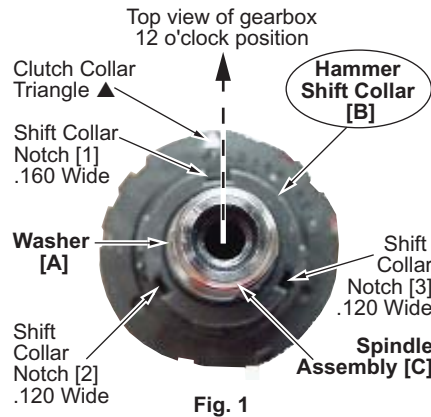
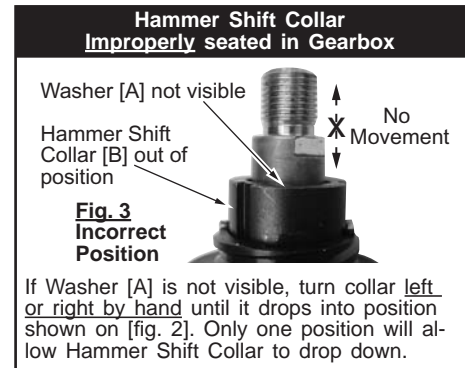

Fig. 1
Fig. 3 Incorrect Position
- Hammer Shift Collar [B] notch [1] with the .160 wide notch in-line or slightly left of gearbox 12 o'clock position (fig. 1).
If hammer Shift Collar [B] is out of position, it will look like example shown in (fig. 3).
- Align two piece clutch assembly [A,B], as shown in fig. 1.
- Hold gearbox assembly, fig. 3 in one hand with the 12 o'clock position facing up.
- Install clutch ring assembly, figs. 1,2 over gearbox assembly, fig. 3 in direction of arrows.
- Failure to hold clutch ring symbols together, as shown in figs. 1,2, when installing clutch ring assembly, will result in a misalignment of the internal clutch ring post, shown / illustrated in step 5.